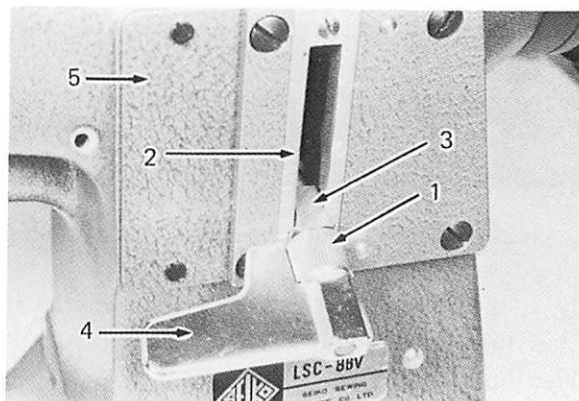

Fig. 11
### ADJUSTING THE STITCH LENGTH (Fig. 11)
2. Remove the cover (5, Fig. 11)
2. Pushing the stitch length regulating lever (4, Fig. 11) up and down, turn the cam (2, Fig. 21) and set at the point both the needle and the feeder rest.